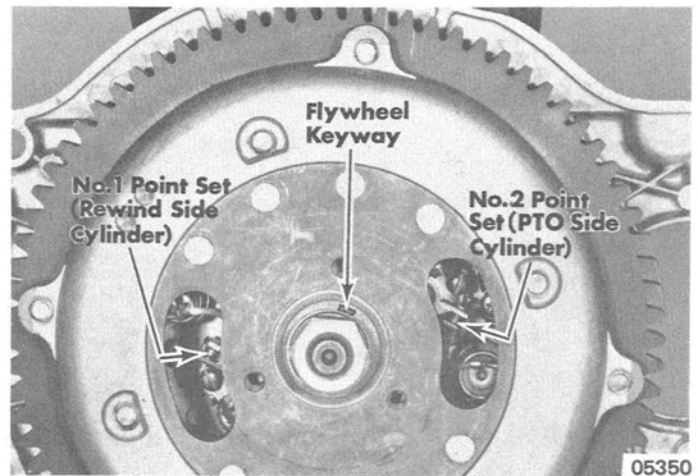

Figure 3. Breaker Point Adjustment
3. Check gap of each set of points by inserting thickness gauge thru slot in flywheel when point set is at maximum gap. (Figure 3)